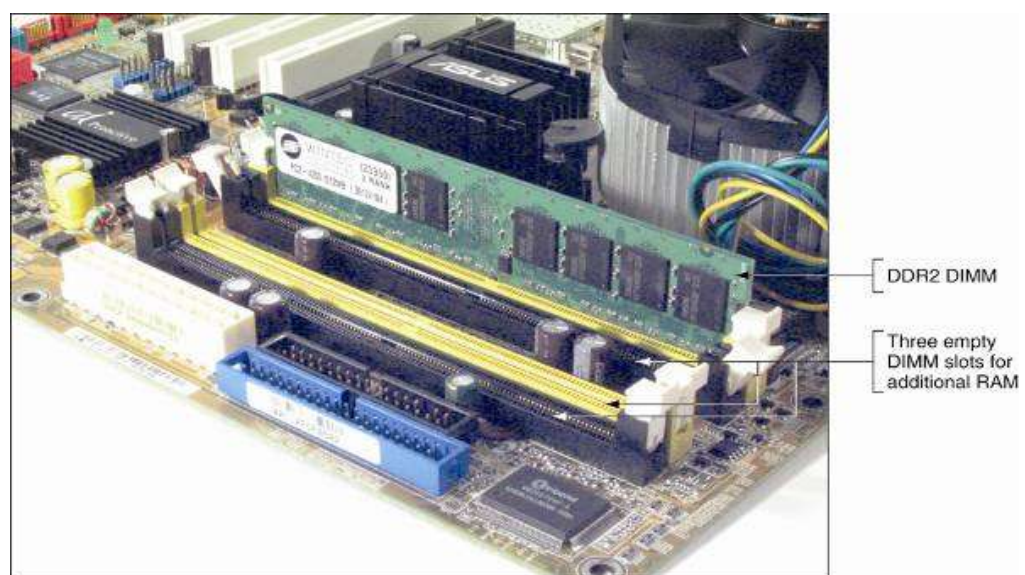

Figure 5.1: A DRAM stored in a DIMM.
- **DIMM (Dual Inline Memory Module):** came after SIMM technology, an example of a DIMM RAM is shown in Figure 5.1. It has 64-bit data path and it has independent pins on both sides. For this purpose it can hold larger RAM size than SIMM. Many enhancements and improvements were added later to promote the performance of DIMM such as DDR, DDR2, buffered, registered, dual channel DIMM, etc. Computers nowadays are using DIMM technology for RAM. DIMM can come into two types: